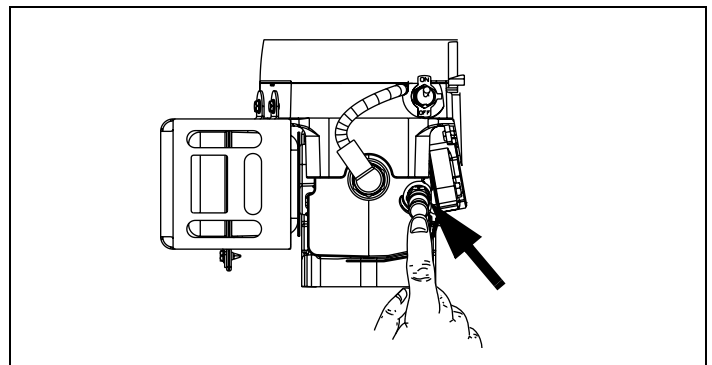

Figure 18. Yellow Compression Relief Valve
- Push yellow compression relief valve in. See Figure 18.